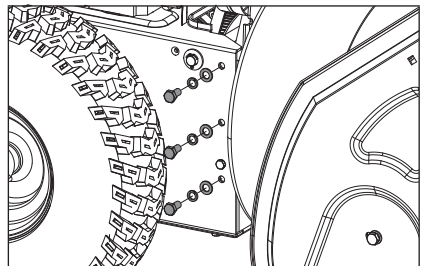

Figure 63
5. Remove auger housing from engine base by removing three M8 x 16 bolts, flat and locking washers on each side. (Fig. 63)